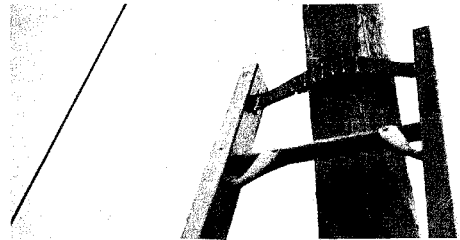

Fig. 8 — Pole Grip
6.09 All ladders, unless ordered equipped with Rotatable Ladder Hooks are provided with a Pole Grip. The Pole Grip consists of a rubber cleat stitched to a nylon strap and attached between the two side rails near the top of the ladder. The Pole Grip will provide more stability when the ladder is placed against a pole, a tree, or the corner of a building (see Fig. 8).